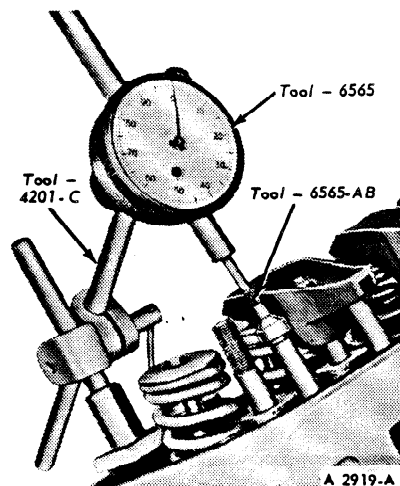

FIG. 3 Typical Camshaft Lobe Lift
3. Make sure the push rod is in the valve lifter socket. Install a dial indicator so that the actuating point of the indicator is in the push rod socket and in the same plane as the push rod movement (Figure 3).